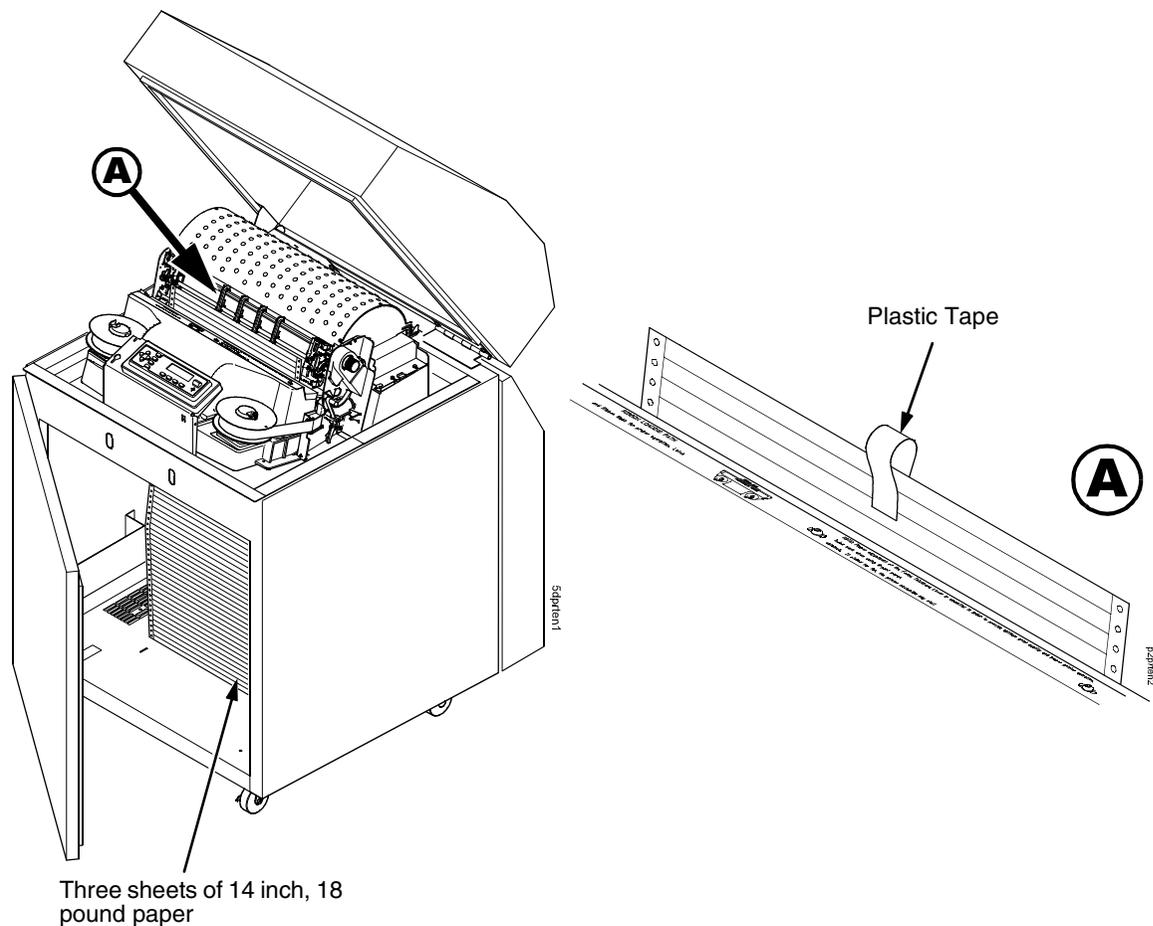

Figure 15. Preparing Paper for Tension Measurement
4. Prepare a length of 14 inch wide paper consisting of three sheets that are still attached at the perforations. (The paper must be single part, 18 lb maximum weight, 0.0036 inch maximum thickness.) Open the cabinet front door and feed the paper up through the print station until the first page clears the ribbon mask by about one inch. (See Figure 15.)
5. Fold a two-inch piece of plastic tape over the top sheet, midway between the sides, as shown in Figure 15.